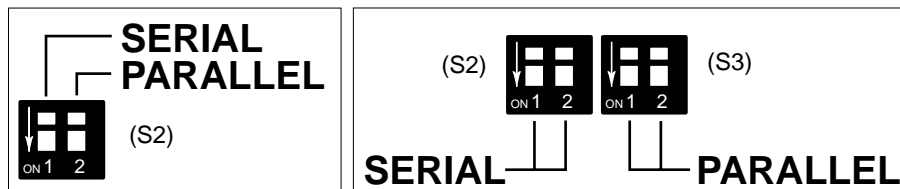

Figure 3-7. DIP switch S2 of the SW980 and SW982 models (left) and DIP switches S2 and S3 of the SW981 models (right).
6. Set the DIP switch(es) as appropriate for your application. Refer to Table 3-1 and **Figure 3-7** below, and keep in mind that OFF = UP and ON = DOWN.